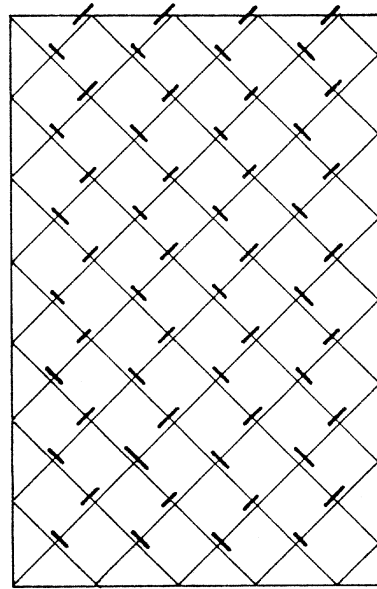

fig. 5
5. Decide whether you want a righthanded or lefthanded knot. When the covering knot, like this one, has an odd number of parts then simply turn the knot pattern around because each end is the opposite hand. Mark each crossing point (fig. 5) how the cord will pass OVER the intersecting strand. I generally use two lines - like a bridge on a map - but for simplicity in the newsletter's small-scale diagram - only one short mark is shown.